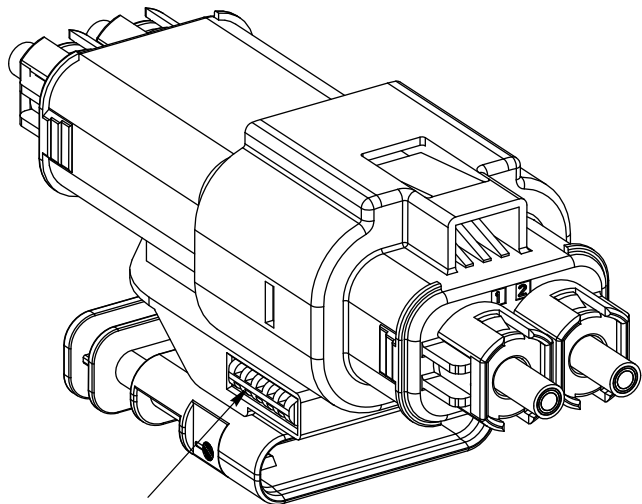

Figure 25
2. The AMP+ HVIL post on the AMP+ HVA400 plug connector should engage and change the position of the HVIL slider as shown in Figure 25. If the connector halves do not fit together easily, check the following: